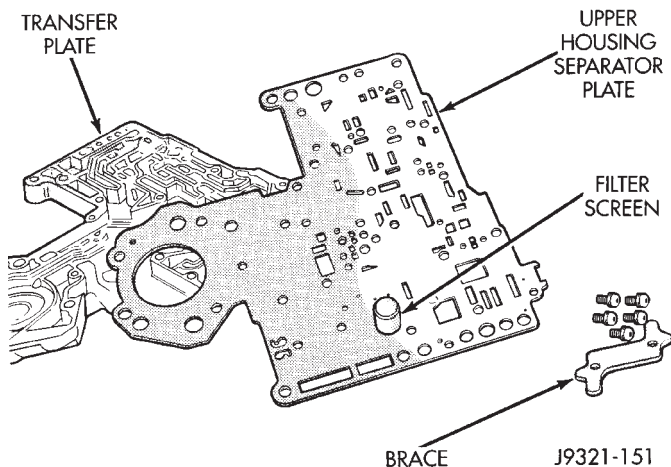

Fig. 60 Upper Housing Separator Plate
(33) Turn transfer plate over so upper housing separator plate is facing upward.
(34) Remove upper housing separator plate from transfer plate (Fig. 60). Note position of filter in separator plate for assembly reference.